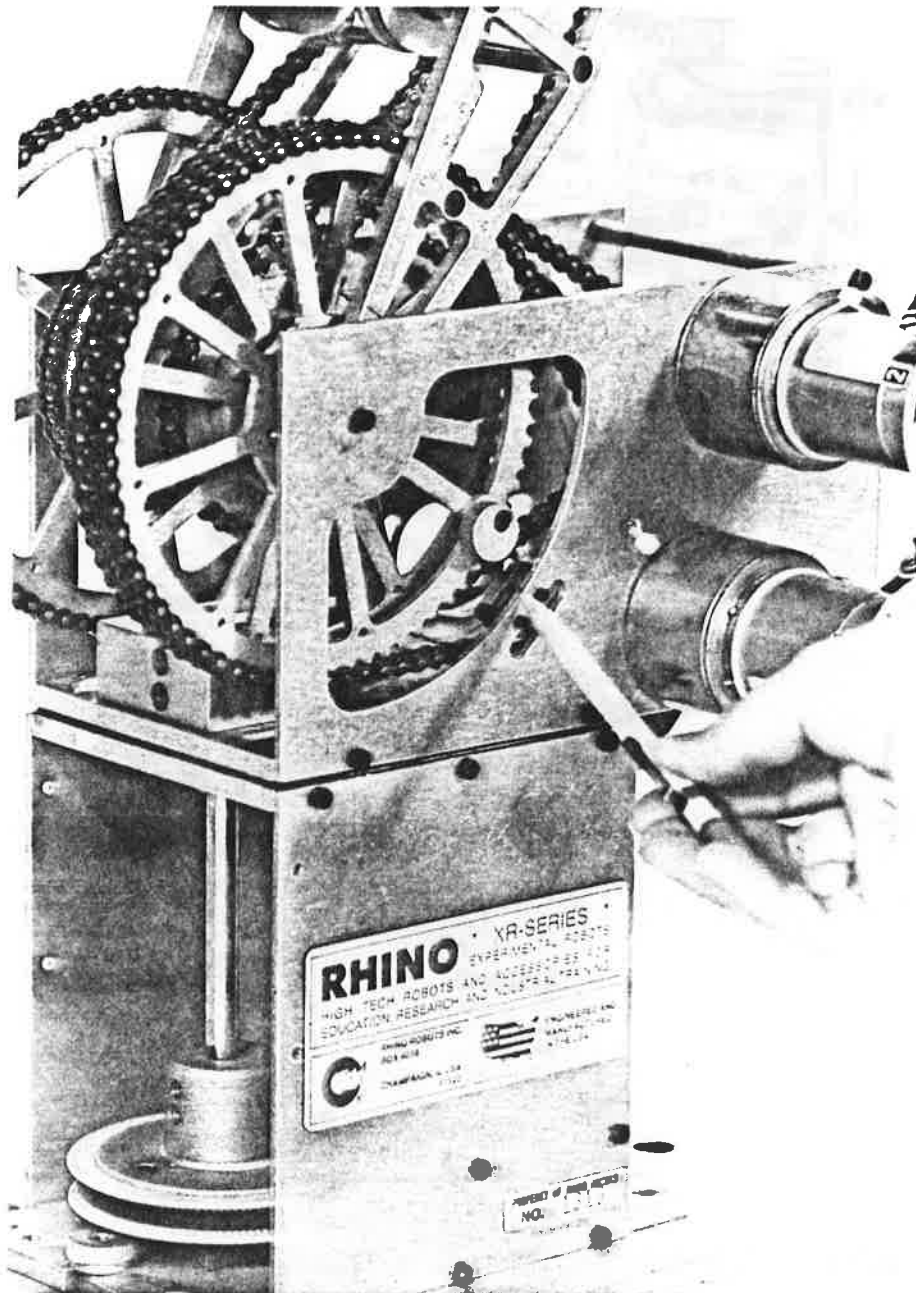

Figure 8.2 Microswitch on XR Series Robot
*NOTE: On the Rhino XR robot, there is a microswitch which is mounted next to each gear of each axis, as shown in Figure 8.2. On each gear, there is a small cam which trips